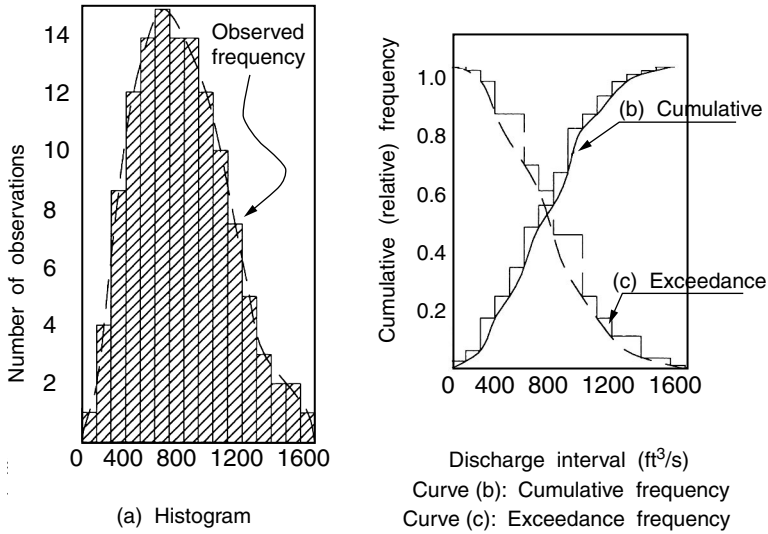

FIGURE F-1 Flow–mass curves.
**Flood frequency curve** A curve that plots, as a result of a flood frequency analysis, flood magnitudes versus their exceedance probabilities. *See* Figure F-1.
**Flow-mass curve** A plot of cumulative streamflows versus time or date. *See Figure F-1.*